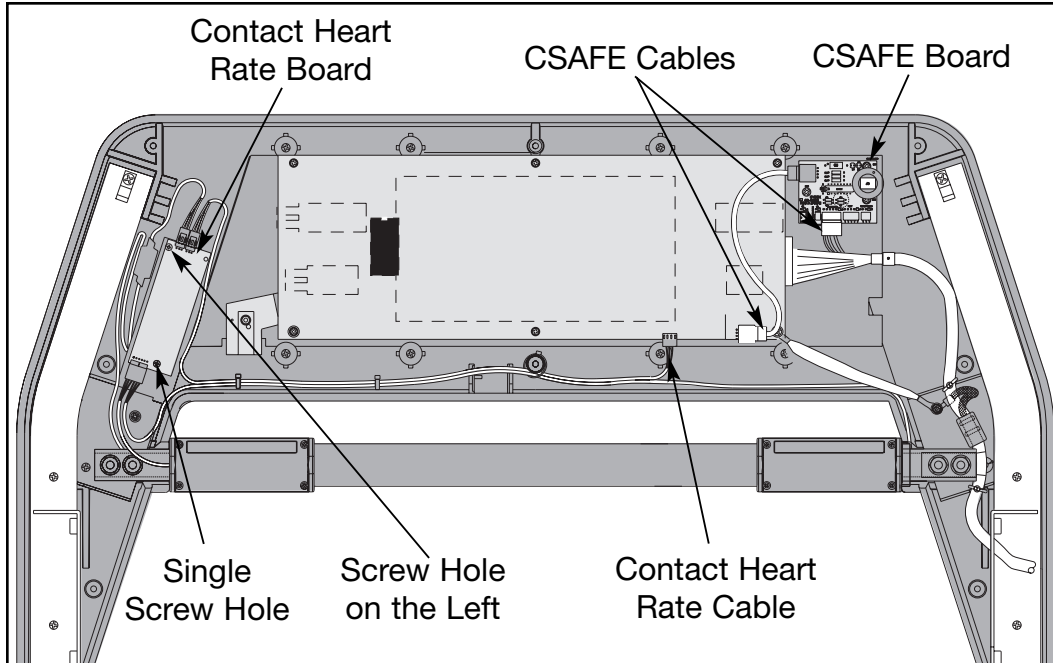

Figure 19
- A.** While wearing an ESD strap, unscrew the two Phillips head screws holding the contact heart rate board in place. See Figure 19.
- B.** Disconnect the contact heart rate cable from the display board. See Figure 19. The board is now free to remove.
- B.** Attach the contact heart rate board with the two Phillips head screws. The screw on top goes in the hole on the left. See Figure 19.
- C.** Connect the contact heart rate cable from into the display board. See Figure 19.
- B. Disconnect the 4 pin CSAFE cable that branches off from the display cable. See Figure 19.
- C. Connect the 4 pin CSAFE cable that branches off from the display cable into the CSAFE board. See Figure 19.